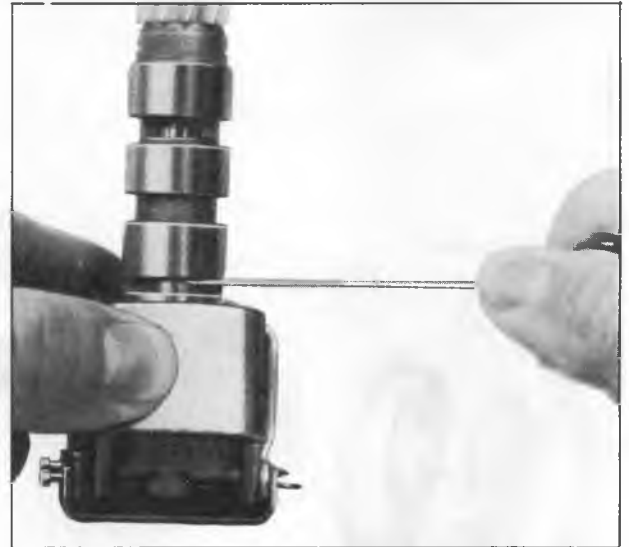

Figure 44—Checking Governor Valve Opening at Exhaust
11. Check valve opening at exhaust (0.020" minimum) with a feeler gauge, holding governor as shown with governor weights completely inward (fig. 44).